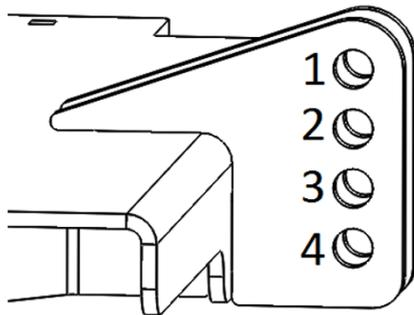
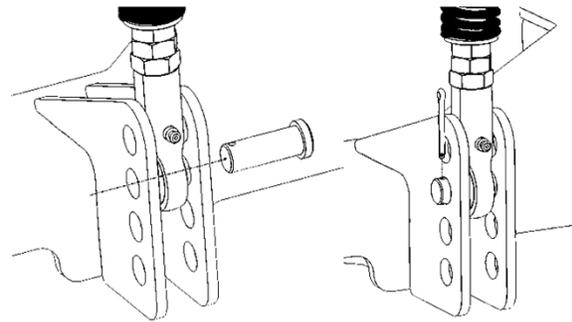

Figure 8: Clevis Hole Callout
Figure 9: Clevis Pin Insertion
6. Once the bottom plate is installed the clevis pin can then be installed. Refer to Figure 8, Figure 9, and Table 1 to ensure the clevis pin is in the right location. This will require the gate being lowered to about 45 degrees.